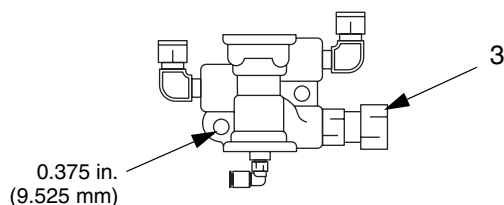

FIG. 7
1. Mount the safety shutoff valve (3) securely. FIG. 7.